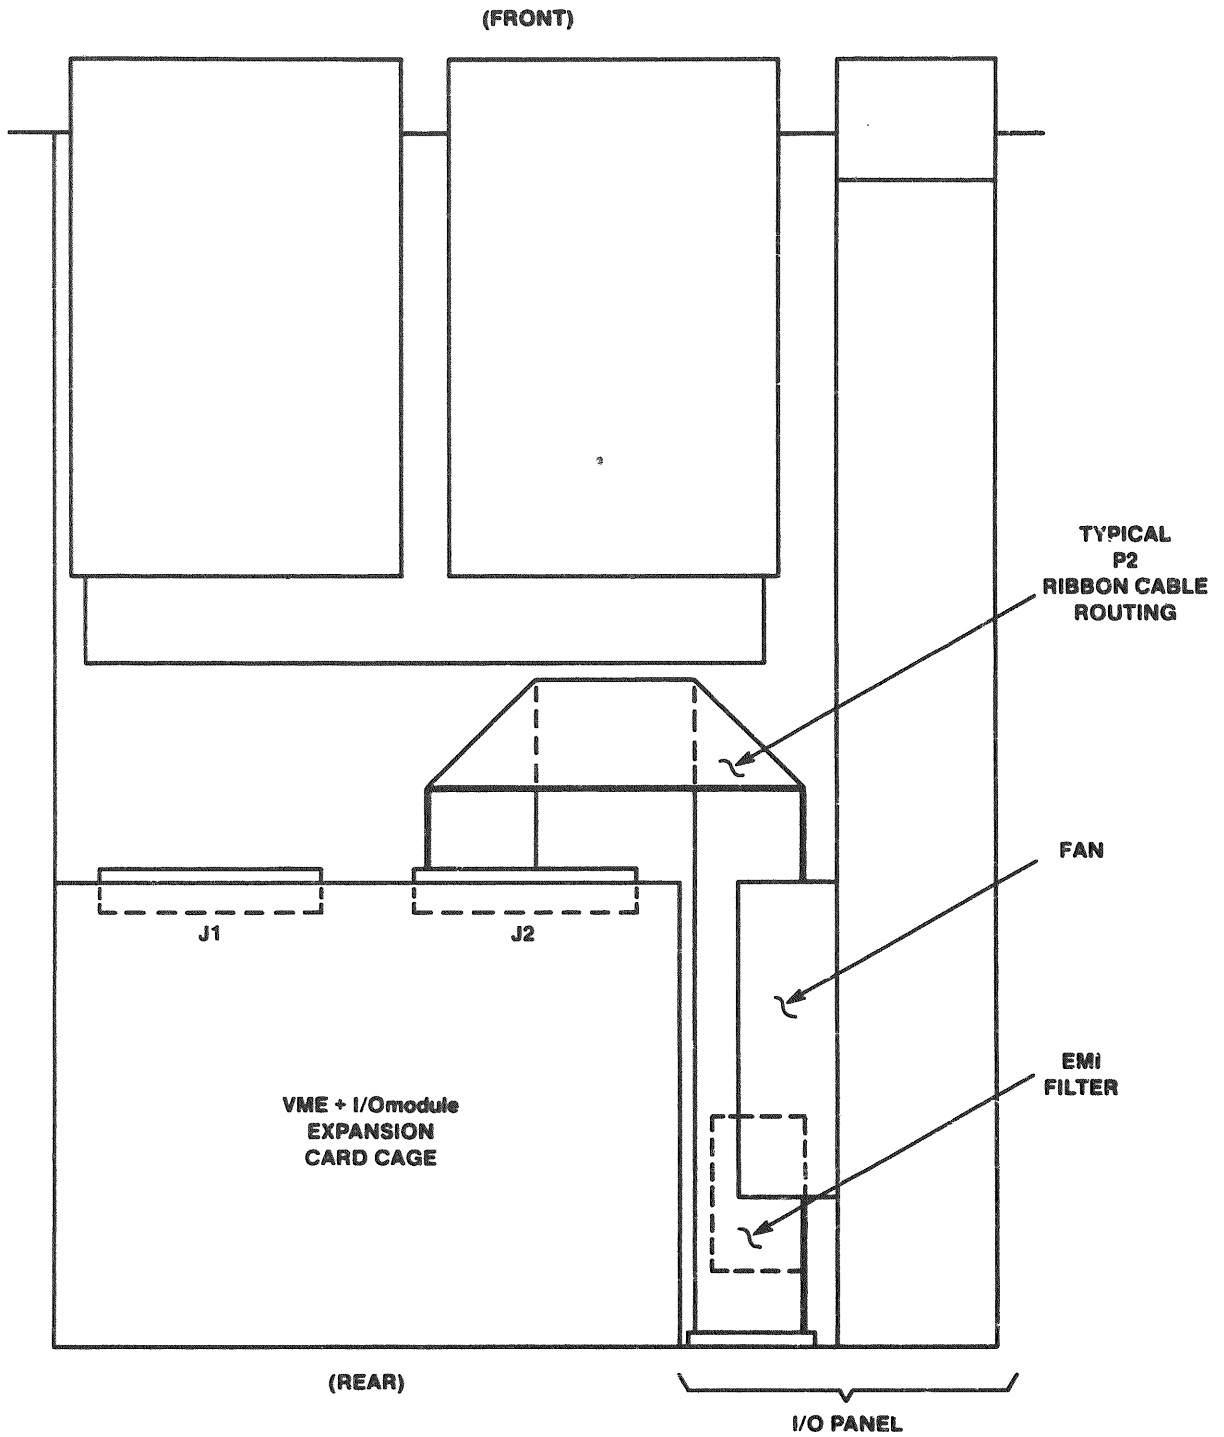

FIGURE 4-8. VME module I/O Cabling Method 2
- a. Route I/O cable assembly as shown in Figure 4-8.